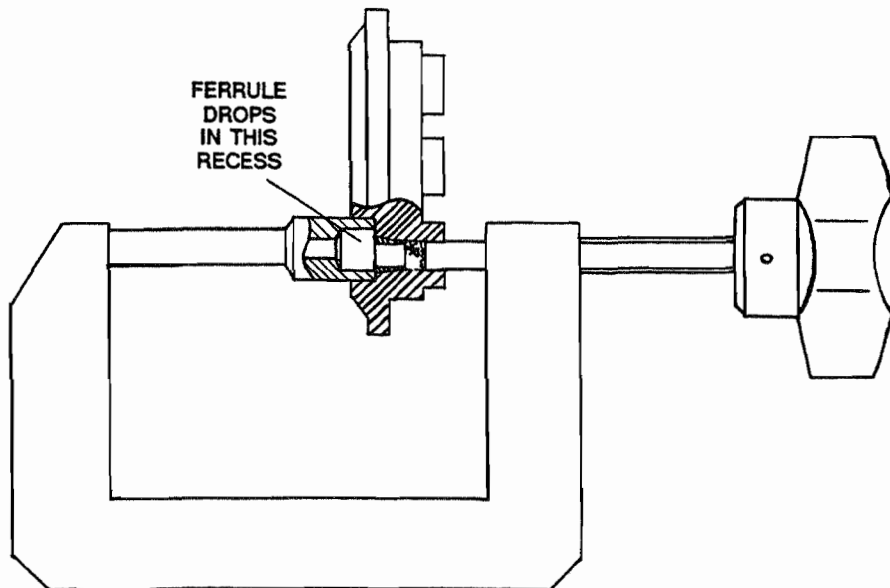

Figure 401
- A. Inner ferrules (49,55) may be removed from outer ferrules (50,50A,50B) and/or outlet plate (42) using .25 inch diameter drift and arbor press or 11-10386 ferrule seating tool. (See Special Tools, Fixtures and Equipment, Figure 1003). See Figure 401.
- C. Discard ferrules (49,55,62), eyelets (54) and terminals (51,51A) following disassembly. All other parts may be re-used on an on-condition basis.